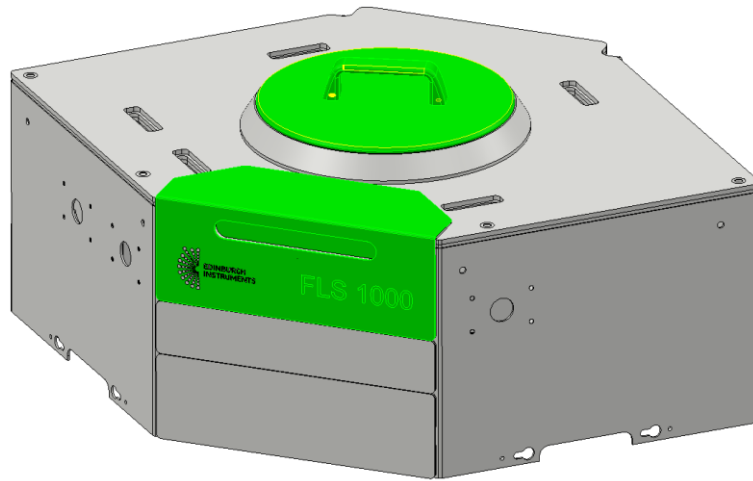

Figure 31: Pan lid and sliding hatch, FLS1000.
1. Remove the pan lid and laminated sliding hatch (highlighted below in Figure 31):